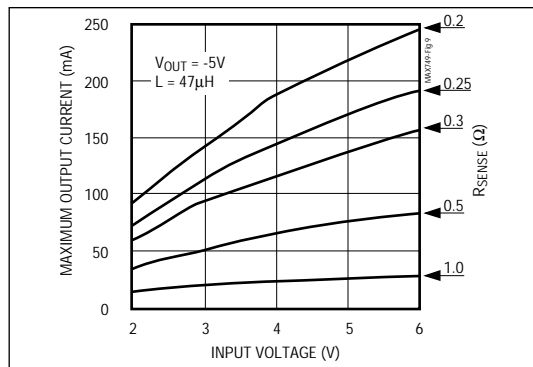

Figure 9a. Maximum Output Current vs. Input Voltage,  $V_{OUT} = -5V$
To maximize efficiency and reduce the size and cost of the external components, minimize the peak current. However, since the output current is a function of the peak current (Figures 9a-9e), the limit should not be set too low.
2. In Figures 9a-9e, locate the graph drawn for the appropriate output voltage (which is either the desired output voltage or, if that is not shown, the graph for the nearest voltage more negative than the desired output). On this graph find the curve for the highest  $R_{SENSE}$  (the lowest current limit) with an output current that is adequate **at the lowest input voltage**.
The theoretical design curves shown in Figures 9a-9e assume the minimum (worst-case) value for the current-limit comparator threshold. Having selected the current-sense resistor, the maximum current limit is given by  $180mV/R_{SENSE}$ . Use the maximum current-limit figure when choosing the transistor, coil, and diode.